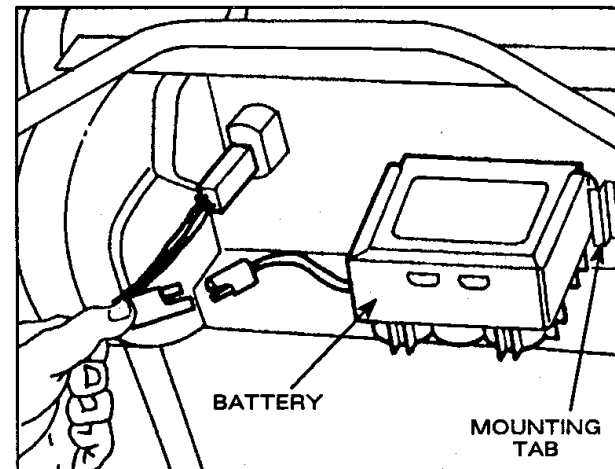

Figure 4
7. Charge battery (Model 26624)— Refer to Charging Battery, page 15. Slide battery, decal side up, between mounting tabs on back of control panel and connect wires (Fig. 4). Insert key into switch when ready to start engine.